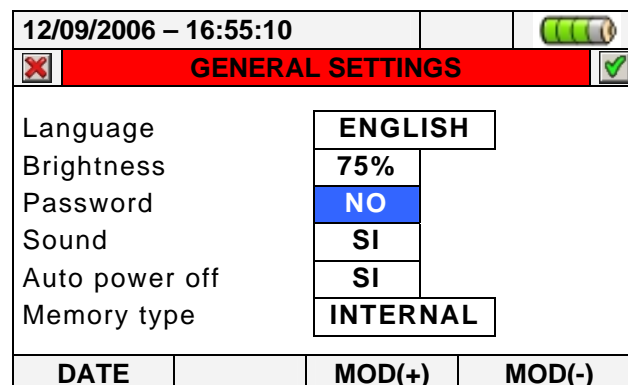

Fig. 12: Protection password settings screen
1. Move the cursor using arrows keys on field relative to “Password” , marked it with blue background, see Fig. 12: